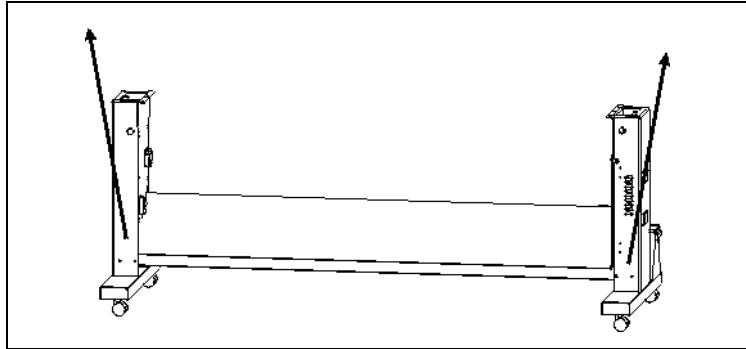

Fig. 1-2. Bias the stand legs outward as shown
13. Bias the stand legs outward at the top, then tighten the screws firmly (see Fig. 1-2) but not all the way.